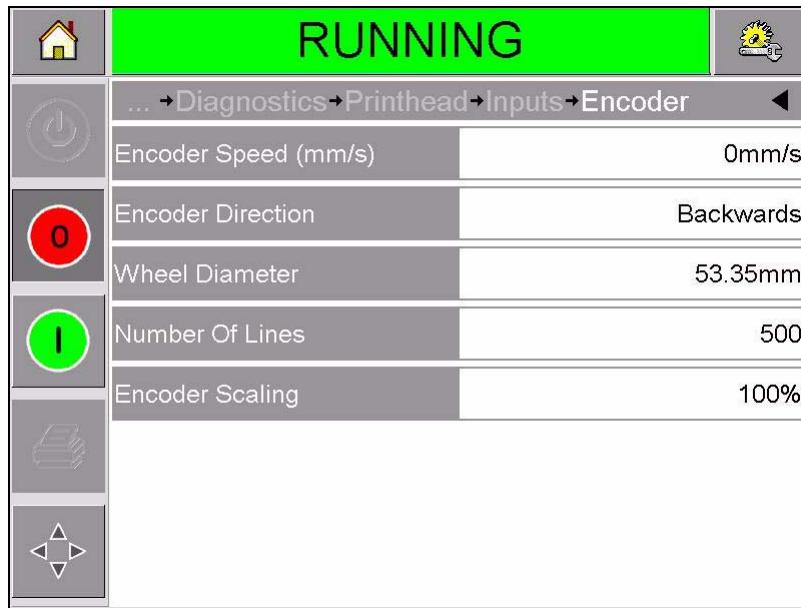

Figure 4-11: Encoder Diagnostics Page
- Encoder: Touch the encoder button to access the encoder diagnostics page. The encoder diagnostic page allows you to access the following encoder parameters (Figure 4-11).